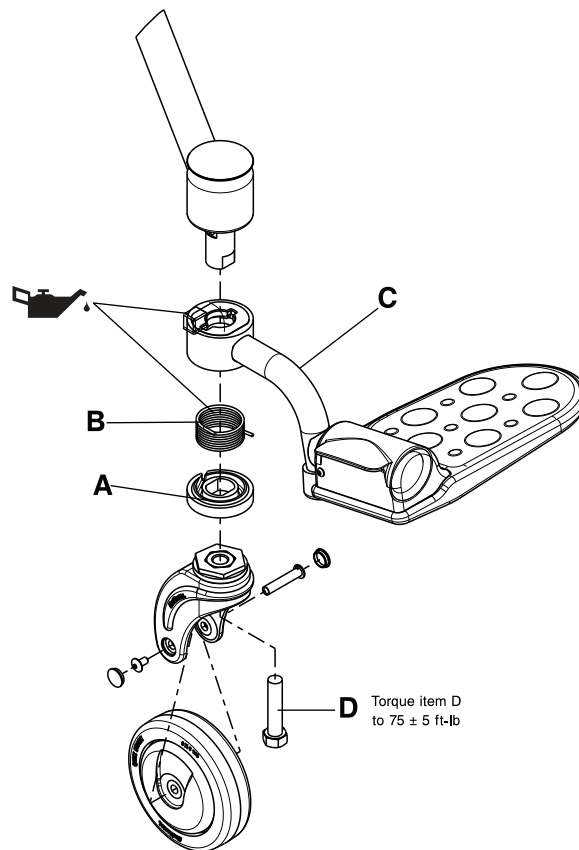

Figure 1-27: Swing-away footrest replacement
4. Grasp and pull down to remove the lower footrest spring holder (A). Discard the lower footrest spring holder.
5. Remove and discard the footrest torsion spring (B).
7. Rotate and pull downward to remove the swing-away footrest assembly (C). Discard the assembly.
8. Apply Syntec grease (3000-200-7 19) to the applicable areas ( Figure 1-27 on page 1-43).
9. Reverse steps 3-8 to install the supplied swing-away footrest assembly. Using a 3/8" drive torque wrench, torque the caster fork bolt (D) to  $75 \pm 5$  ft-lb before installing the caster to the fork.